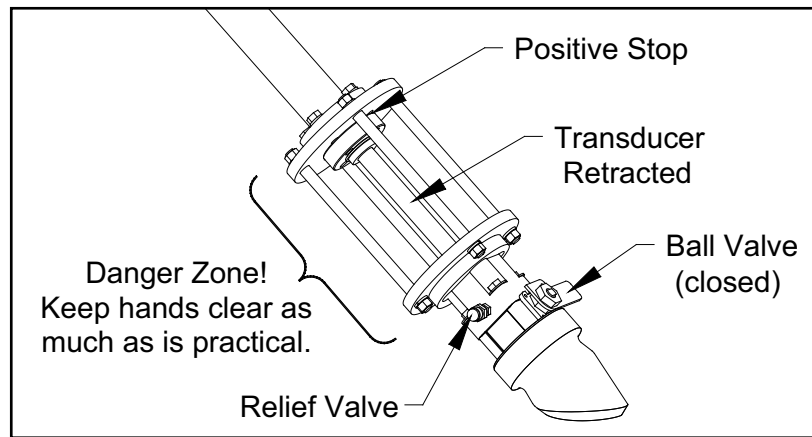

Figure 83: Transducer Retracted
7. Using the hydraulic pump valve, slowly release pressure from the hydraulic ram until the transducer has retracted to the positive stop in the mechanism (see *Figure 83* below).
6. Slide the T11 transducer back to the positive stop of the insertion mechanism (see *Figure 83 on page 100*). Verify that the pressure relief valve is closed and torqued to 15 ft-lb.